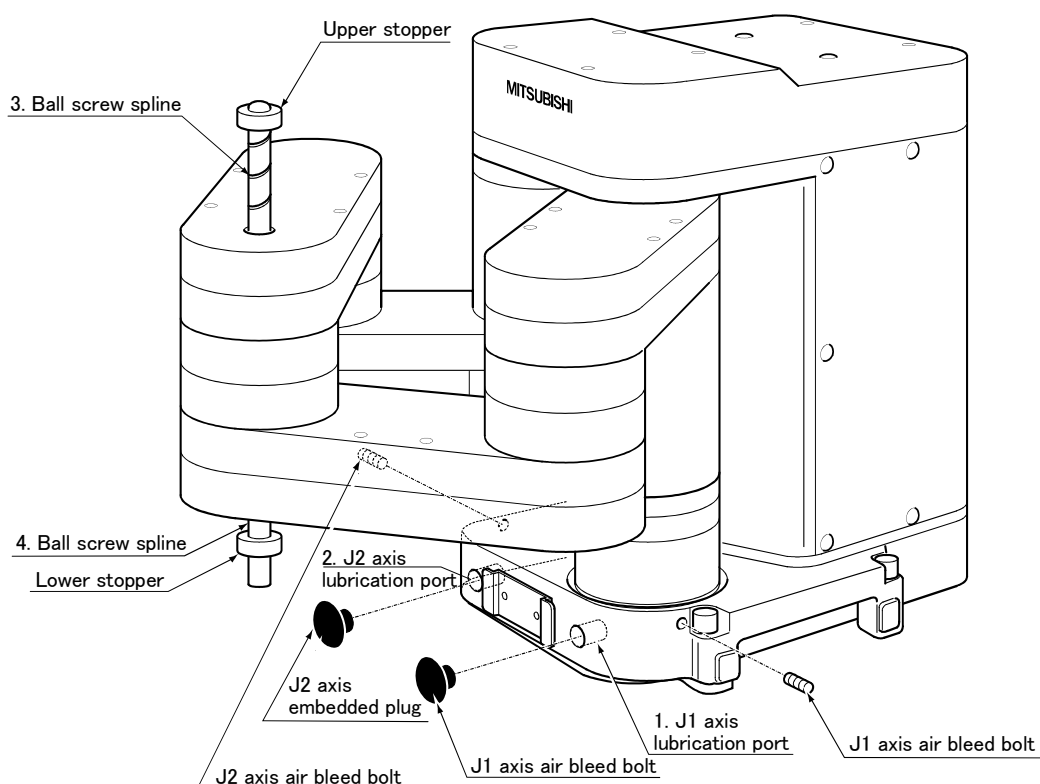

Fig.5-9 : Lubrication positions
- * The numbers in the above table correspond to the supply positions in Fig. 5-9.
(2) Lubrication method of J1, J2 axis reduction gears
- 1) Set the robot to the posture shown in Fig. 5-9. Take care not to put the ball screw spline axis near the grease lubrication port at this time.
- 2) Remove the embedded plug shown in Fig. 5-9.